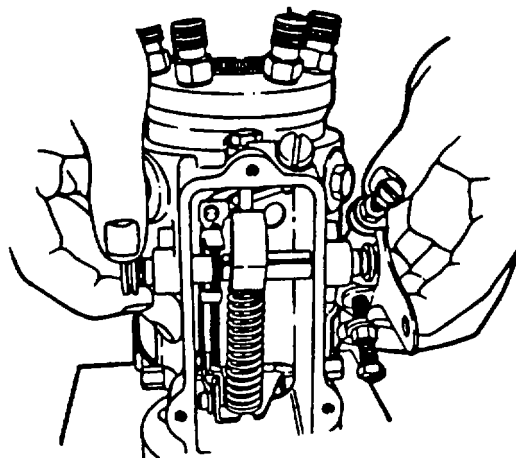

FIGURE 3-102. Installing Throttle Shaft Assembly (Typical)
- bi. Install two new washers (22) and rubber seal rings (21) using suitable tool on throttle shaft (18) and shutoff lever shaft (30). Apply a light film of general purpose grease (630AA) to each seal.
- bj. Install throttle shaft assembly (18) partially through its bore in housing. Slide barrel and spacer (20) and throttle shaft lever (19) over throttle shaft so that projection in lever (19) engages rear key way on shaft. Position forked end of throttle lever so it straddles guide stud, refer to FIGURE 3-102.